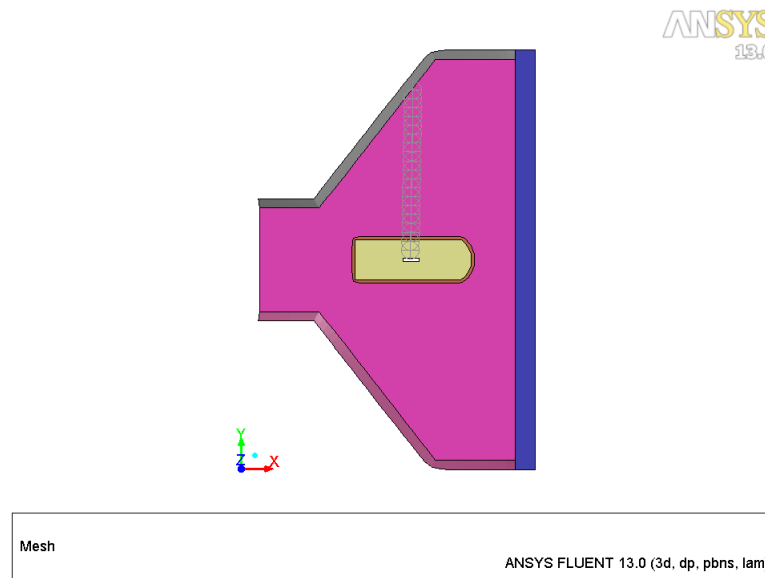

Figure 4: Mesh with Rake
4. Create a rake to monitor velocity on a symmetry plane (Figure 4).
5. Display the rake (Figure 4).